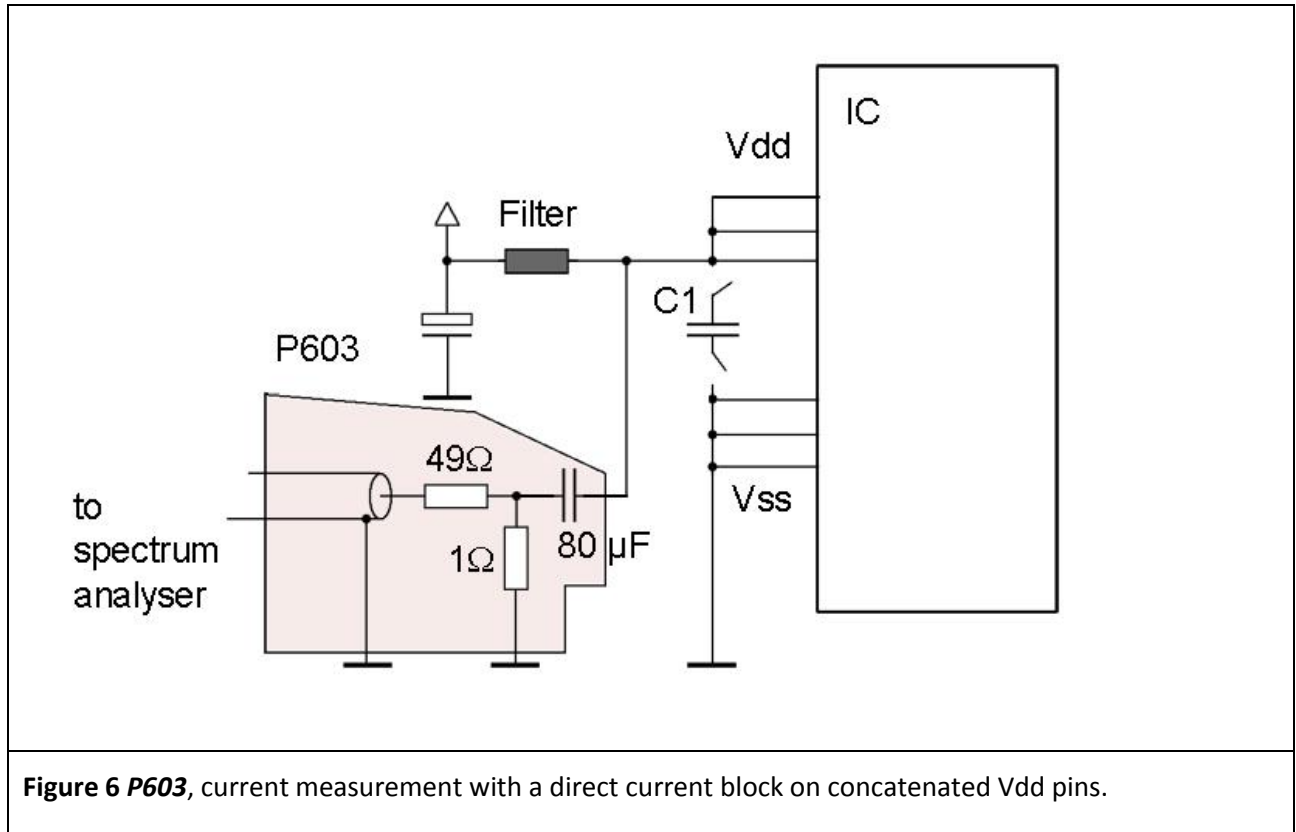

Figure 6 P603, current measurement with a direct current block on concatenated Vdd pins.
1. Current measurement (**P603**) on concatenated Vdd pins, **Figure 6**
An 80 μF capacitor is integrated into the **P603** probe as a direct current block. It backs up the IC in the circuit diagrams **Figure 6** and **Figure 8**.